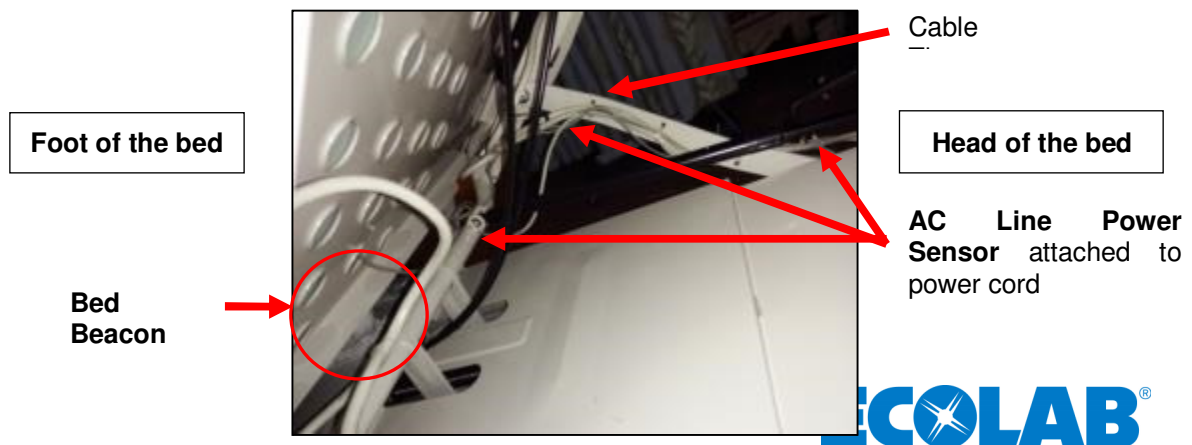

Figure 4. AC Line Power Sensor Cable Routing to the Bed Beacon
1. Place cable tie holders, cable ties and route **AC Line Power Sensor** cable to the **Bed Beacon** as shown (see *Figure 4 & 5*). Make sure the mounting surfaces are clean and free of dirt and oil. A soft cloth dampened with isopropyl alcohol works well to clean mounting surfaces.
2. Route the **AC Line Power Sensor** cable underneath the headboard along the metal rail frame. Secure the cable with cable ties shown in *Figure 4 & 5*.